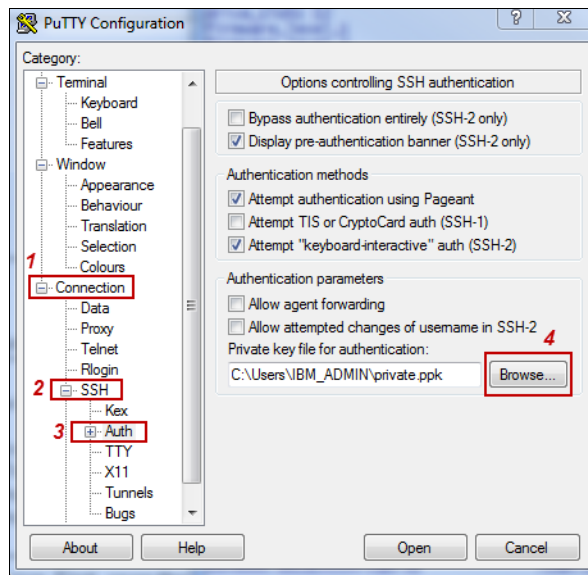

Figure 8-11 Set private key for PuTTY SSH session
- Configure the private key for this session by making the selections, as shown in steps 1, 2, and 3 of Figure 8-11. Click **Browse** (step 4) to locate the private key file.